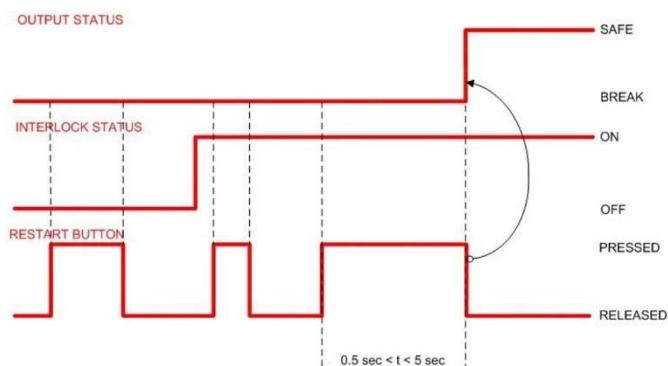

Figure 3 – Manual Restart timing
- **Manual Restart**, After activation, ESPE resets to Normal Operation only once the RESTART function has been activated (see Figure 3 on page 36) and provided that the object has been removed from the controlled area.